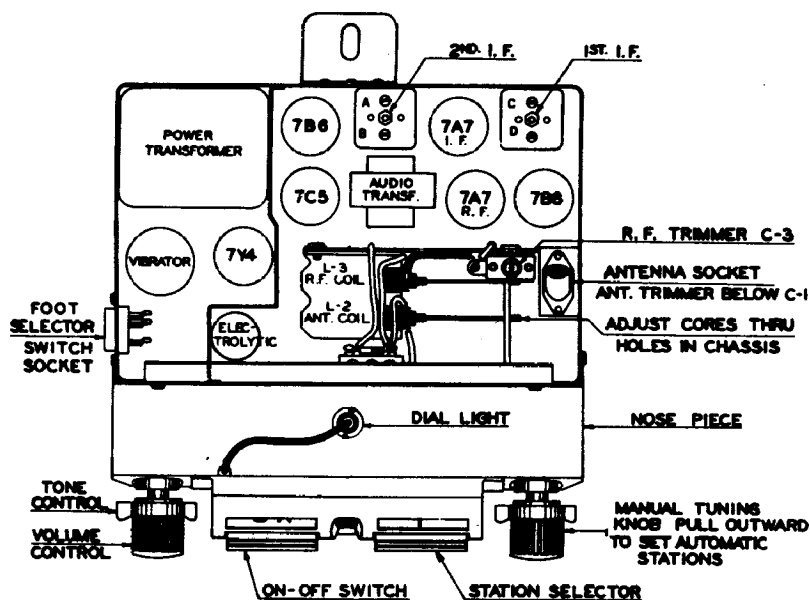
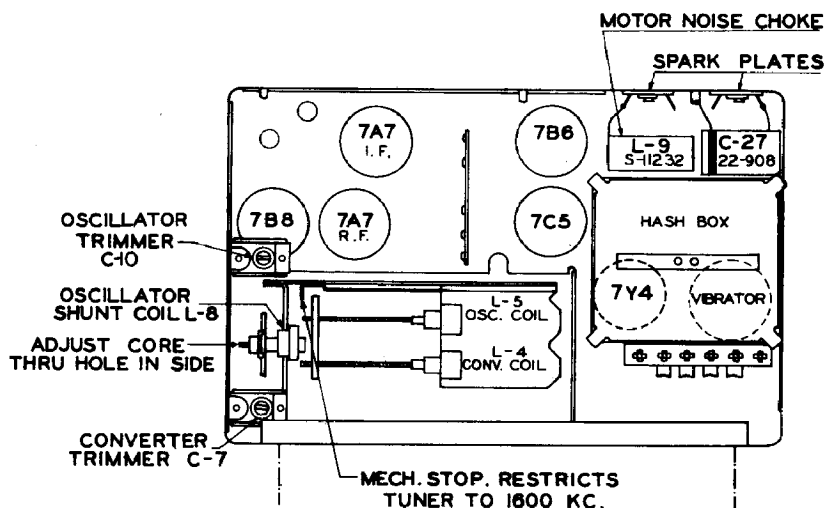

Fig. 10. Top View of Chassis.
Fig. 11. Bottom View of Chassis.
4. Adjust I.F. trimmers A, B, C, and D (Fig. 10), in the order named for maximum output. Repeat the operation to assure accurate alignment.
4. Adjust oscillator trimmer C-11 (Fig. 11), for maximum response.
7. Adjust converter trimmer C-7 (Fig. 11) and R.F. trimmer C-3 (Fig. 10) for maximum response.
6. Adjust oscillator trimmer C-10 (Fig. 11), at 1700 Kc.
7. Adjust converter trimmer C-7, R.F. trimmer C-3, and antenna trimmer C-1 (Fig. 10 and 11) for maximum output reading.
10. Adjust oscillator core (Figure 10) to scale at 1200 Kc.
11. Adjust the antenna core, R.F. core, and converter core (Fig. 10 and 11), for maximum output reading.
13. "Rock in" shunt oscillator coil (Fig. 11) for maximum output reading. (This should only be done as a last resort.) This is the same as rocking in the padder condenser on a ganged condenser receiver.